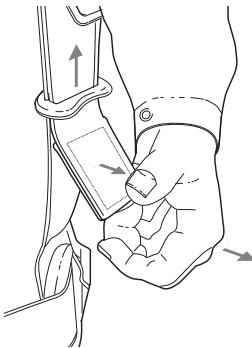

Fig. 21 Releasing the strap retainers
- Lift the shoulder harness ends to release the strap retainers (Fig. 21) and then lift the shoulder strap buckles to loosen the straps.